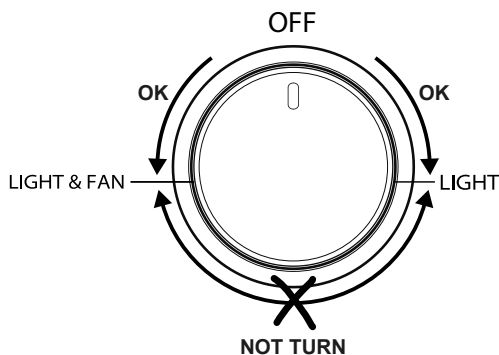

Fig. 3.2
The oven light and the fan motor are controlled by a switch knob on the control panel (fig. 3.2). To light up the oven lamp turn the knob anti-clockwise to LIGHT position. To operate the fan motor turn the knob clockwise to LIGHT & FAN position. In this setting also the oven lamp is lighted.
- During ignition of the oven burner, the fan motor shall be switched off (light and fan control knob in OFF position – Fig. 3.2).
After lighting the oven burner switch on the fan motor by turning the LIGHT & FAN control knob (fig. 3.2) on LIGHT & FAN position.